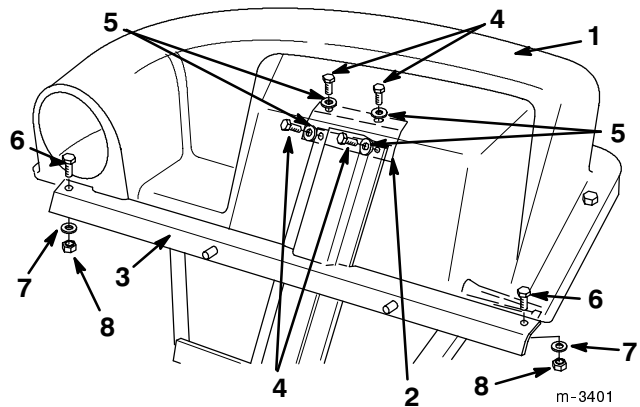

Figure 3
1. Secure the top of the mounting frame to the grass catcher cover using the backup plate, four 5/16 x 1" bolts, four 5/16" washers, and four 5/16" locknuts (Fig. 3).
2. Secure the mounting frame with the two 3/8 x 1" bolts, 3/8" washers, and 3/8" locknuts (Fig. 3)